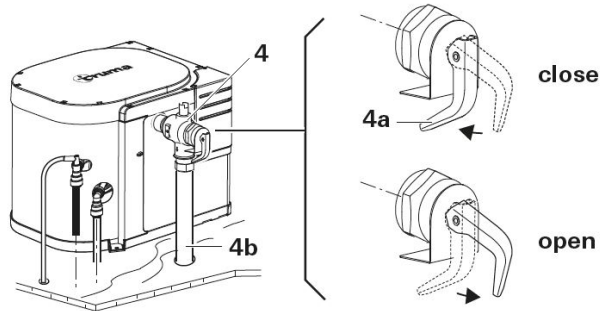

Fig. 2a
- Push down blue latch on the slide mechanism and pull kitchen out. (Fig: 2a)
Check that the drain valve (3) and the P&T safety valve (Fig.2a - 4) in the cold-water intake are closed.
- Test lever (Fig. 2a - 4a) of the pressure relief valve (4) must be in the “close” position.
- Do not place a plug or reducing coupling in the discharge pipe (Fig. 2a - 4b) of the P&T safety valve.